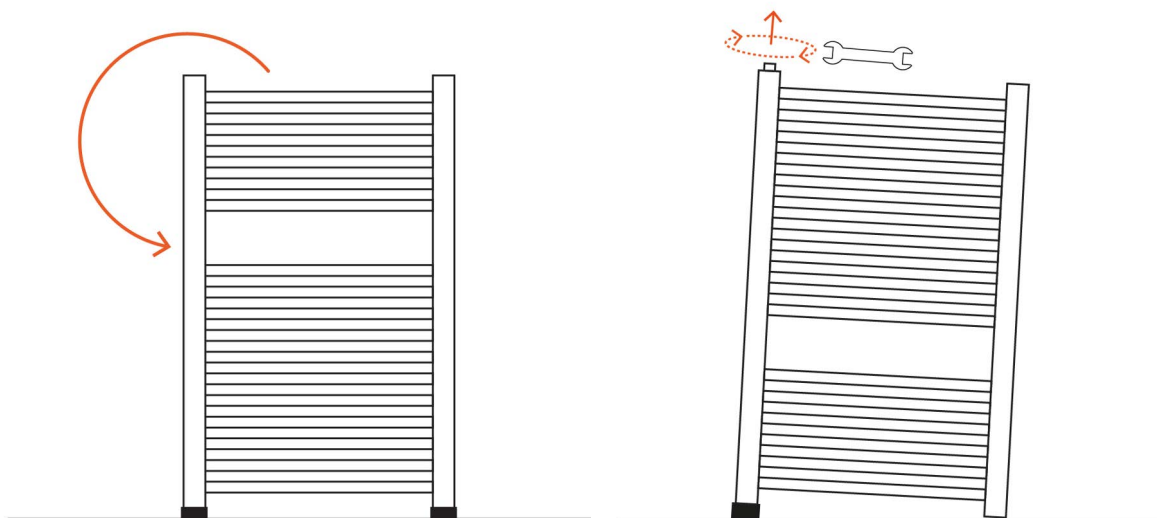

Figure 4 | Inlet tilted to its highest point before opening..
3. Tilt the towel rail until the fitting location is at the highest point, as shown in **Figure 4**.